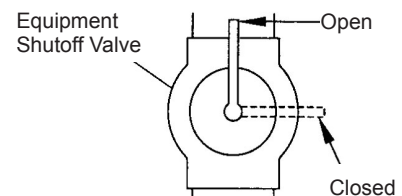

Figure 14- Equipment Shutoff Valve
1. Close equipment shutoff valve (see Figure 14).
1. Open equipment shutoff valve (see Figure 14).